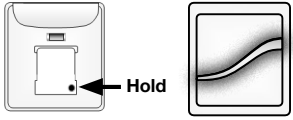

Fig. 25
B. Press and hold the program button on the secondary remote control until the LED flashes green (about three seconds), then release the button. Both the primary and secondary remote LEDs will flash green, then turn off, confirming inclusion. (Fig. 25)